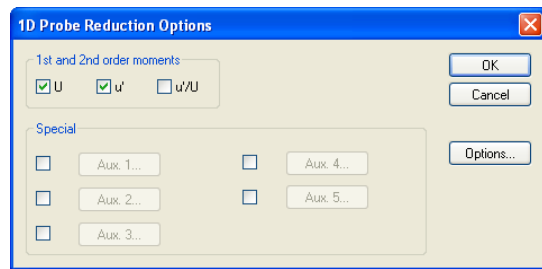

Figure 19: Probe Reduction Options window
2. Click on the top 55R01 probe (Probe 1). The "1D Probe Reduction Options" window, shown in Figure 19, opens.